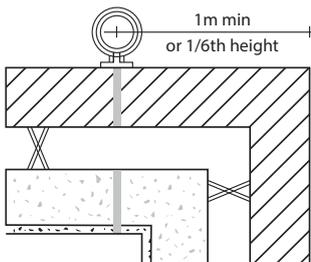

Fig. 7
- Return angles in L, T and U shaped masonry panels (See Figure 7)